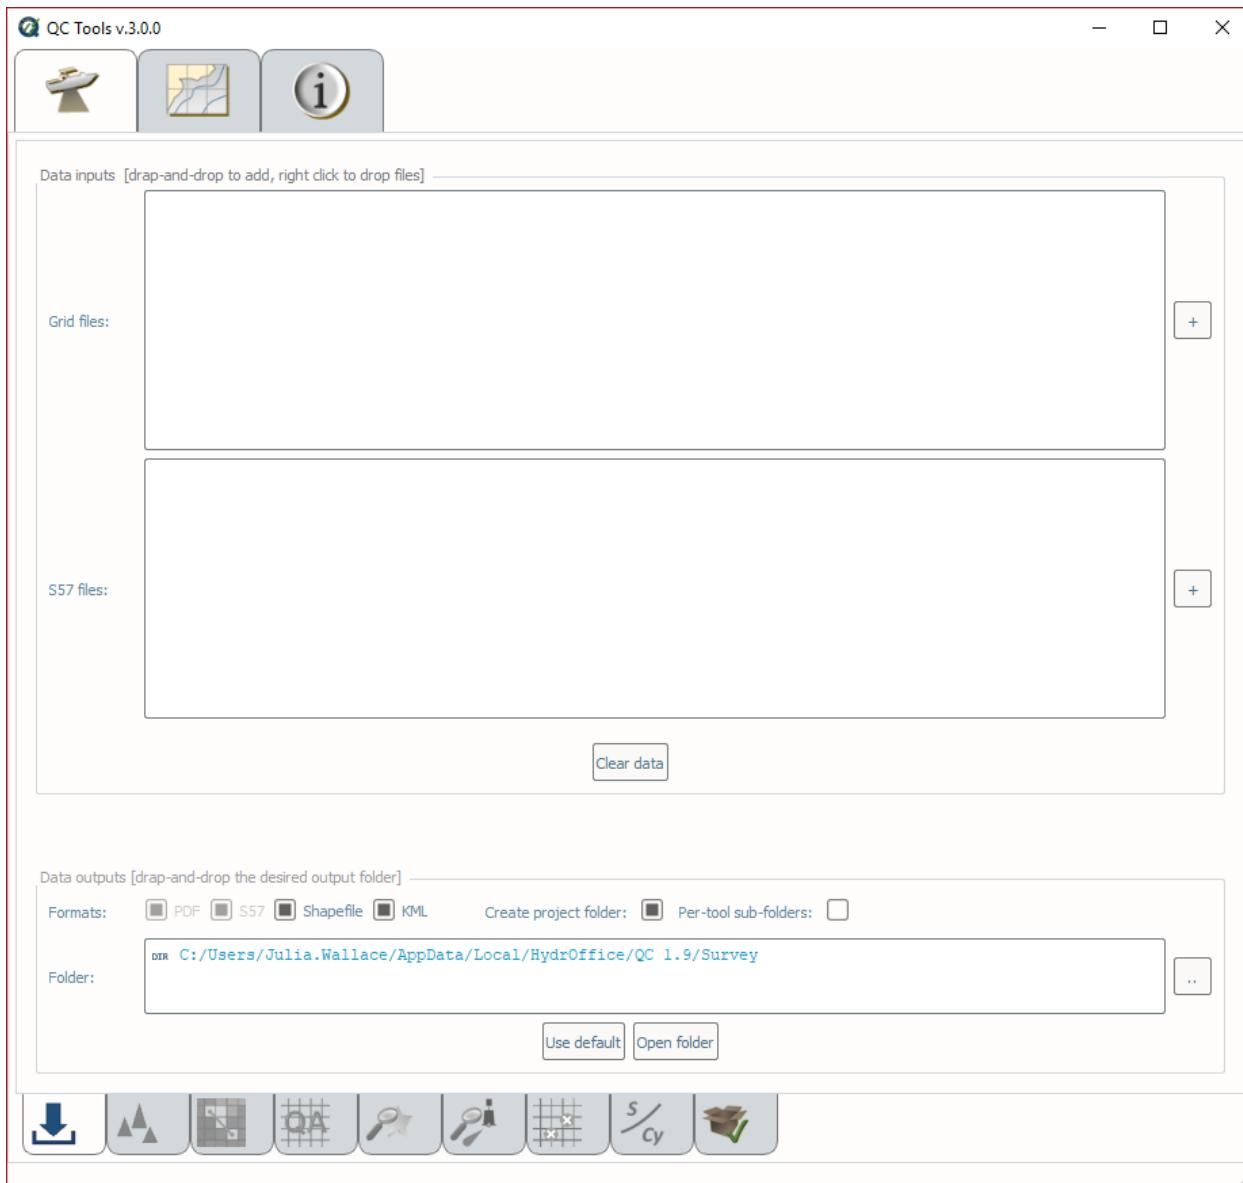

Fig. 2.2: Data inputs and outputs for the Survey tab.
- With the addition of a grid and features, the **Detect fliers**, **Detect holidays**, **Grid QA**, **Scan designated**, **Scan features**, **VALSOU checks**, and **SBDARE export** tabs on the bottom of the interface are now available (Fig. 2.2).